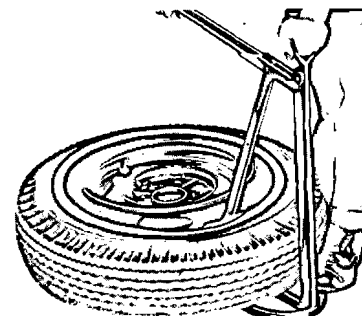

FIG. 3—Bead Loosening Tool
2. With a bead loosening tool, break loose the tire side walls from the wheel (Fig. 3).